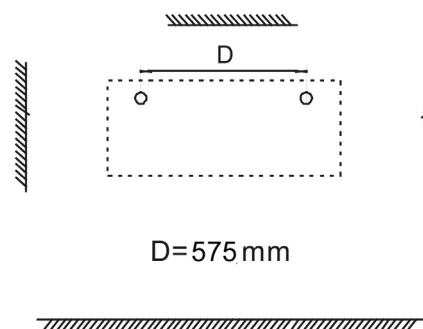

Figure 2
2. Drill two holes of the dimension of the expansible tubes  $\varnothing$  - 8 mm - in the wall (See Figure 2) – D= 575 mm